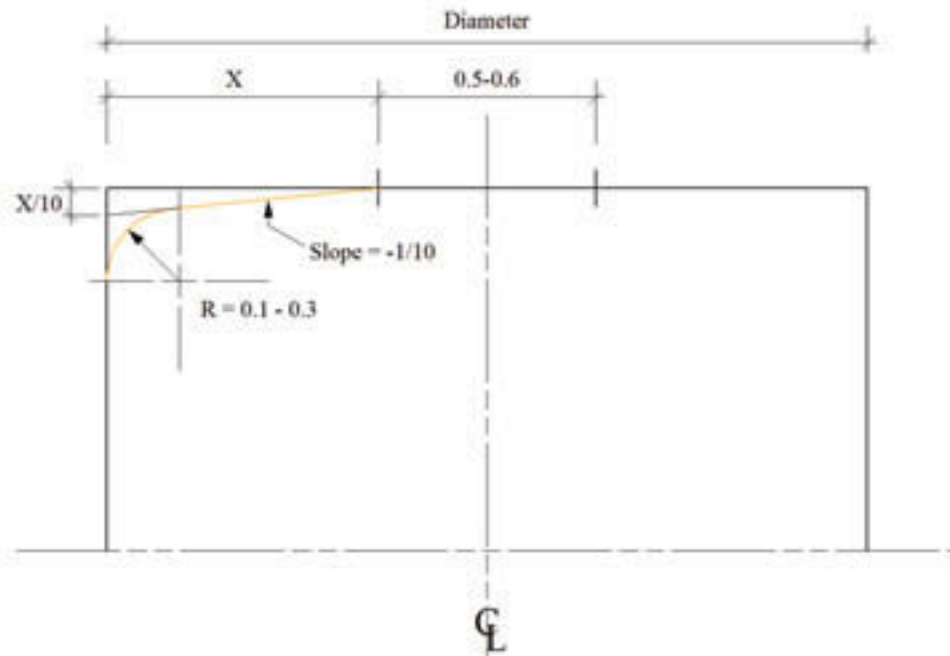

Fig. 77: Tank shape, top — Step 3
3. At the edge, it curves downward to meet the vertical wall of the tank (figure 77). This curve has a radius of 0.1–0.3 m depending on the size of the tank (the smaller radii can be used for smaller tanks).